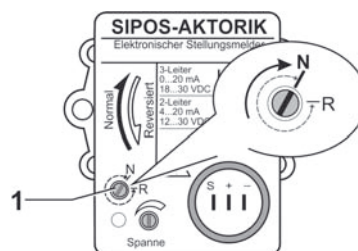

Fig. 10: Setting to normal mode
Factory setting for the mode adjuster (fig. 10, item 1) is in position "N".
The mode adjuster (fig. 10, item 1) must always be in an end position, otherwise the function of the position transmitter is faulty (initial and full-scale values cannot be set). Carefully turn screw so that stop in end position is not damaged.